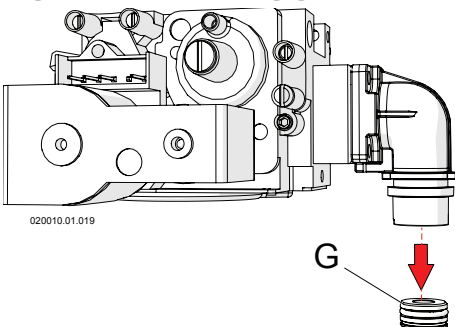

Figure 16-4 – Replacing the gas nozzle
- 7 - Replace nozzle "G" in figure 16-4 with the one in the kit, checking it corresponds in diameter to that shown in table 16-8;